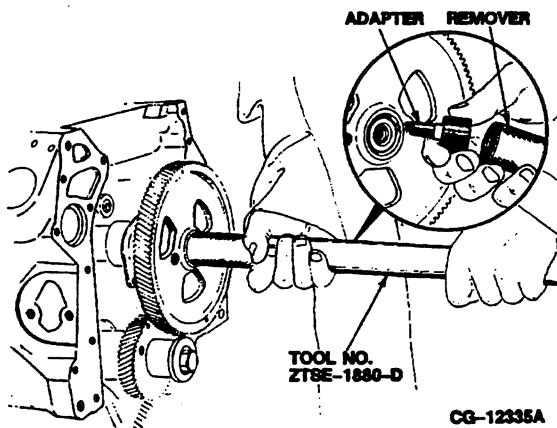

**Figure 4.11. Removing Camshaft Thrust Bolts**
4. Remove camshaft thrust plate bolts through the access holes, **Figure 4.11**.